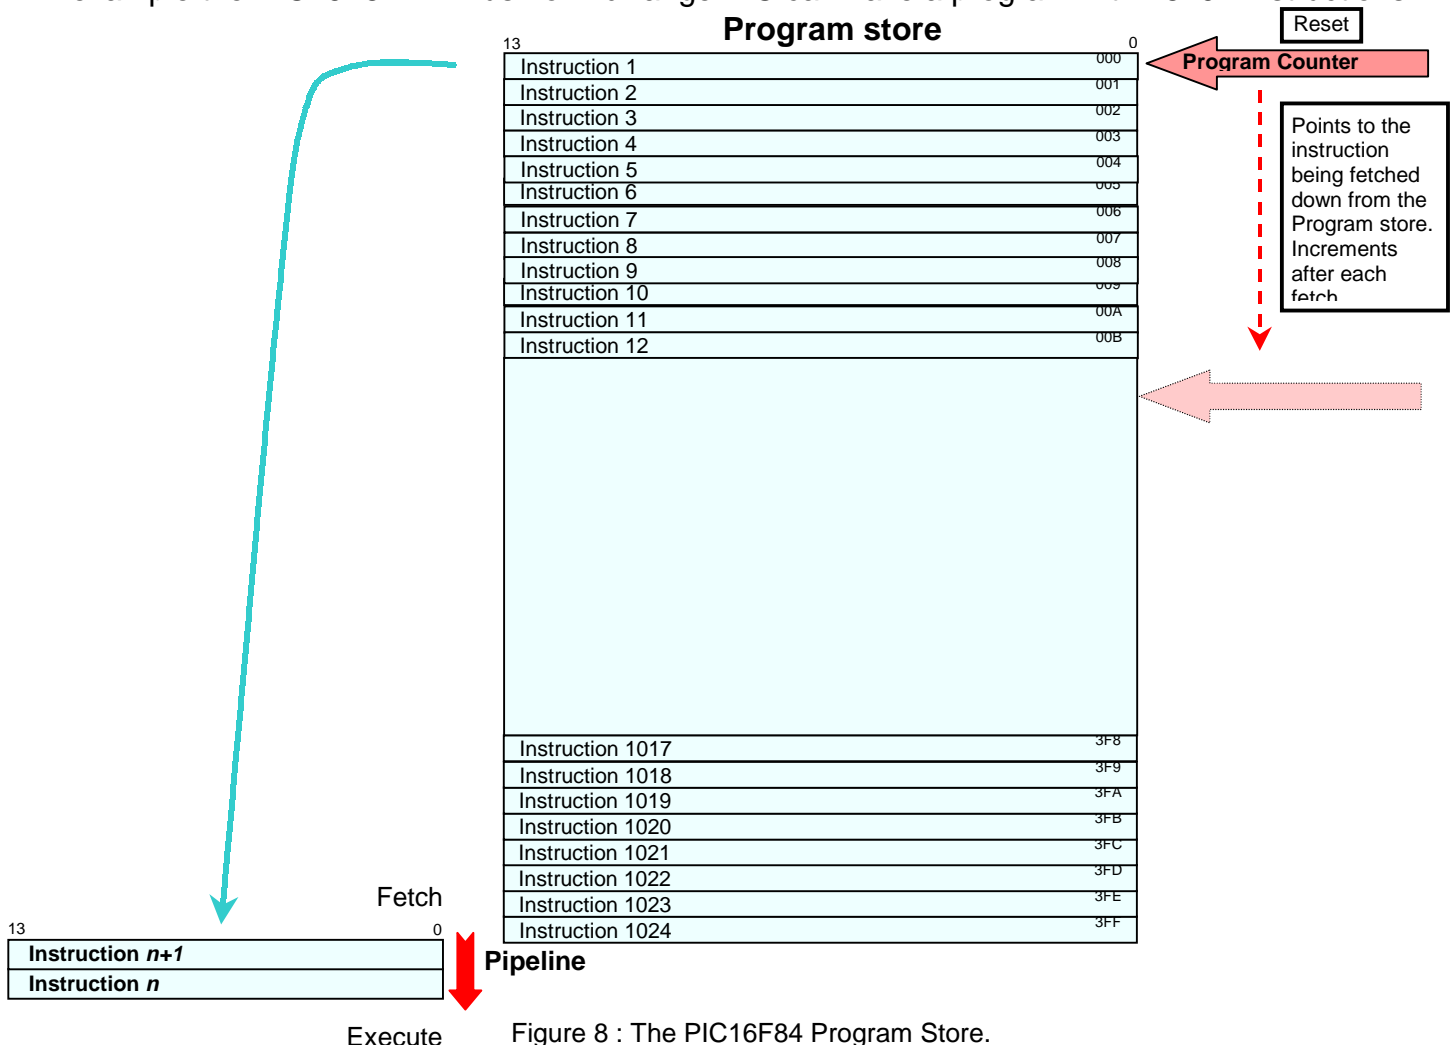

Figure 8 : The PIC16F84 Program Store.
Each instruction is held as a 14-bit word in the Program store. As can be seen in Figure 8 this store in the PIC16F84 has 1024 cells going from address 000h through 3FFh. Associated with the Program store is the **Program Counter** (called the Instruction Pointer in Intel microprocessors). On Reset the 13-bit Program Counter (PC) is cleared to zero — 000h. The PC thus addresses (points to) the first instruction in the program. This 14-bit instruction word is read into the first of a temporary register pair, called a **pipeline**. At the same time the PC is incremented to point to instruction 2. This is fetched into the top of the pipeline with instruction 1 going down to the bottom register whence it is decoded and executed. The process is continued with PC being incremented and instruction $n+1$ being fetched from the Program store at the same time as instruction n being executed. This incremental progress continues unabated with each concurrent fetch/execute taking one instruction cycle (which is $\frac{1}{4}$ of the clock frequency). However, the Program counter's incrementation can be overwritten with a **goto**, **call** or **return** instruction, which causes the PC to jump to the address in question — e.g. **goto 320h** puts the 13-bit address 0 0011 0010 0000b into the PC causing it to jump to point to the instruction located in cell 320h. Also some instructions cause the execution to skip over the next instruction; i.e. the PC is incremented twice. In all such cases the pipeline has to be reloaded from the start, or *flushed*, and such instructions take *two* clock cycles to execute.
Flags are kept in a Special-Purpose file Register (SPR) called **STATUS** at address File 03, as shown in **Figure 8** on page 10. The Carry flag is bit 0, so to do something to the Carry flag target this bit in File 03; for example to clear the Carry flag: